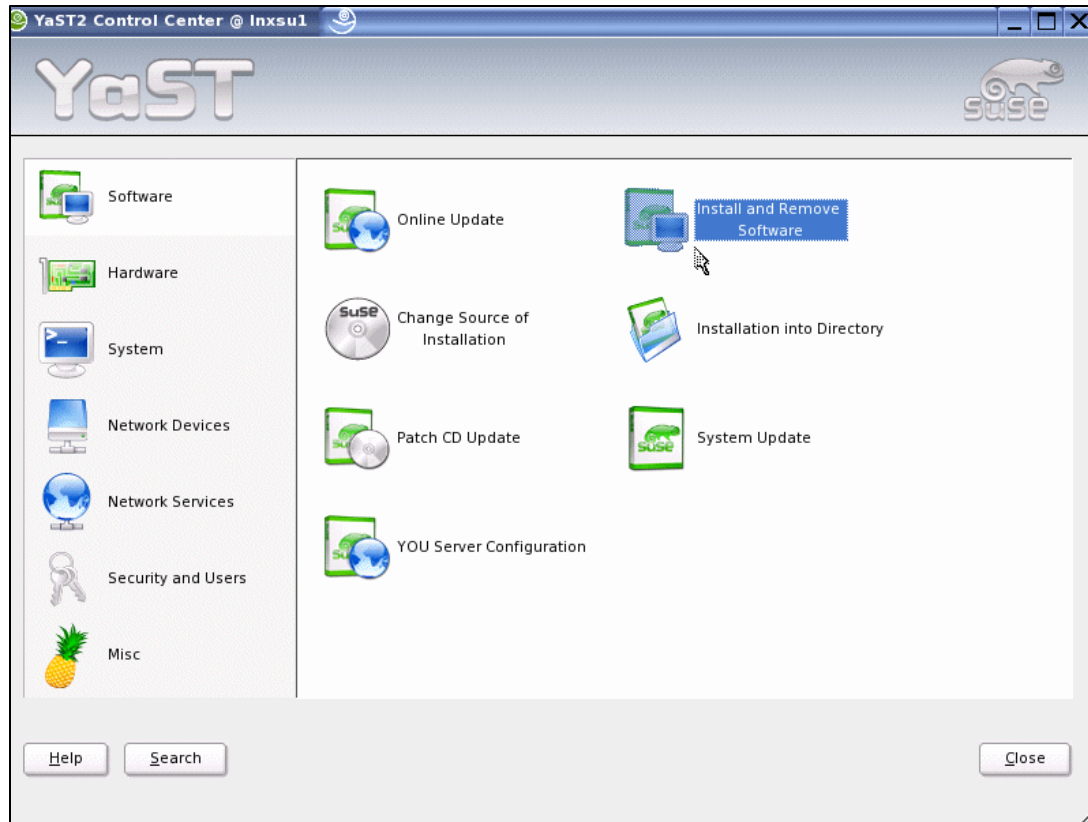

Figure 10-7 YaST2 Control Center screen - Install or Remove Software option
3. In the YaST2 Control Center, we clicked **Install and Remove Software**, as seen in Figure 10-7 on page 292.